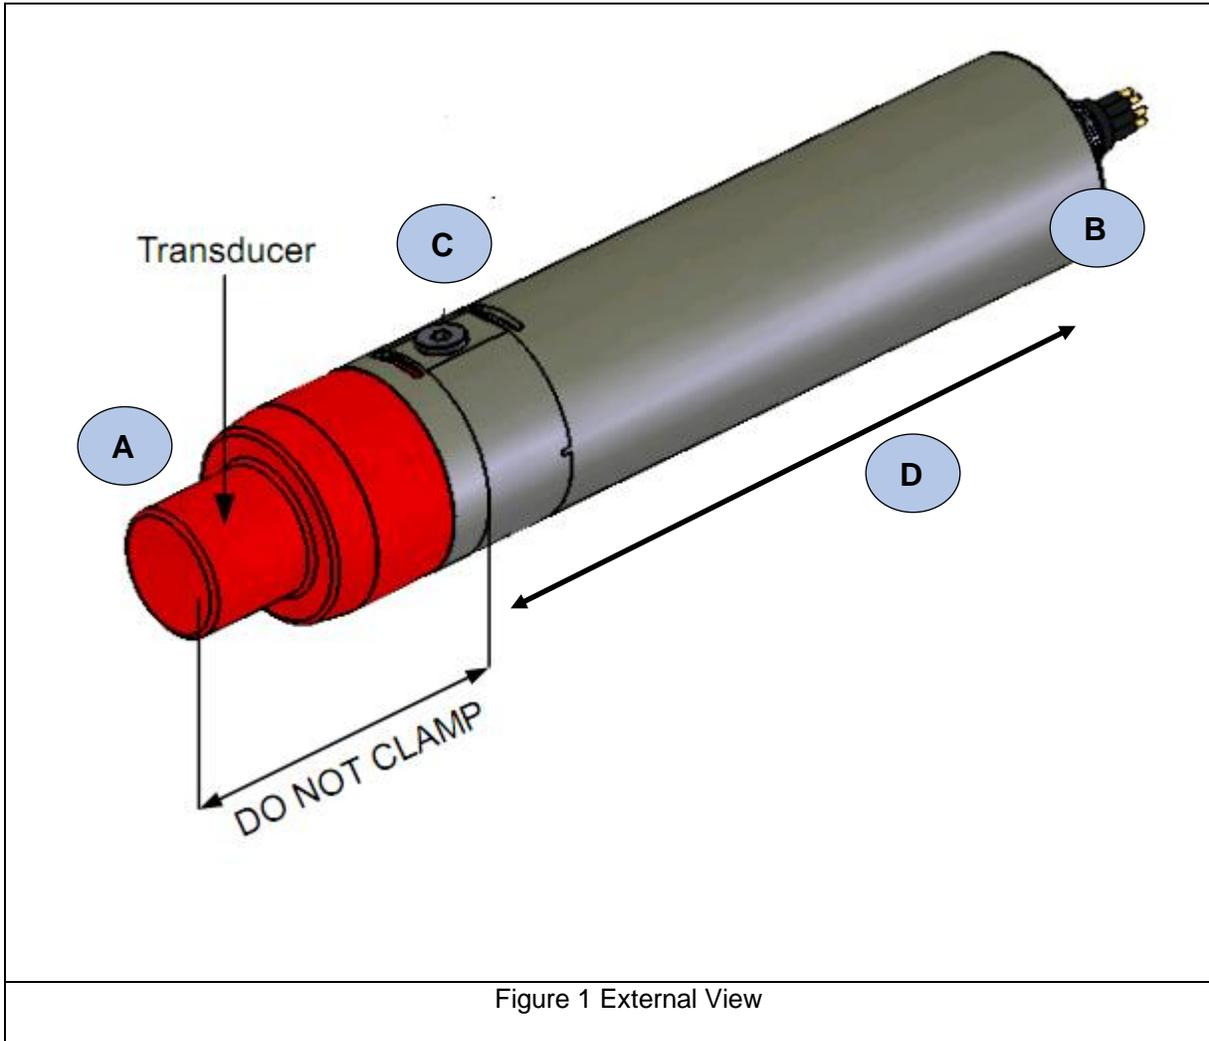

Figure 1 External View
- Physically mount the sonar or connect it to the down-pipe payout arrangement. Do not clamp the sonar anywhere on the red polyurethane section as detailed below (See Figure 1 External View)